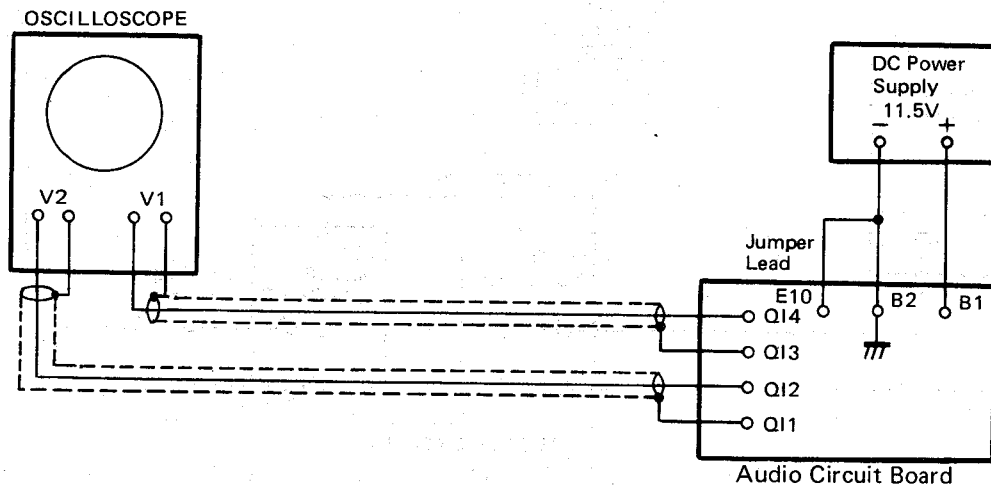

Fig. 34
1. Set up Oscilloscope and DC supply as shown in Fig. 34.